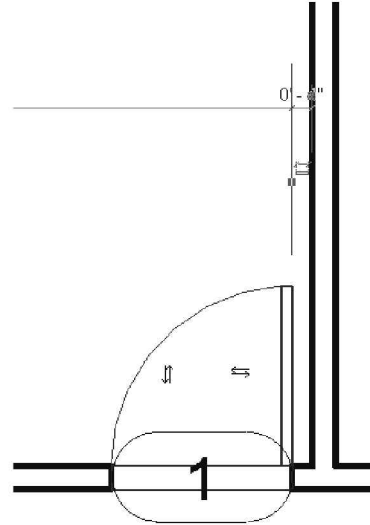

FIGURE 2-2.5 Edit door location
- Click the **witness line grips** so the temporary dimension references the right door jamb and the wall face as shown in Figure 2-2.5.
- Click on the dimension text, type **4"** and press *Enter*. Make sure you add the inch symbol or you will get feet rather than inches (Figure 2-2.5).